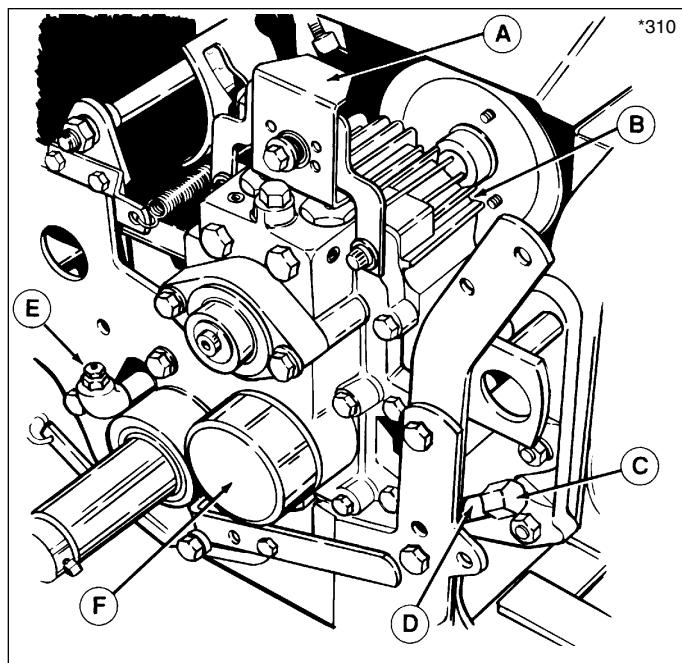
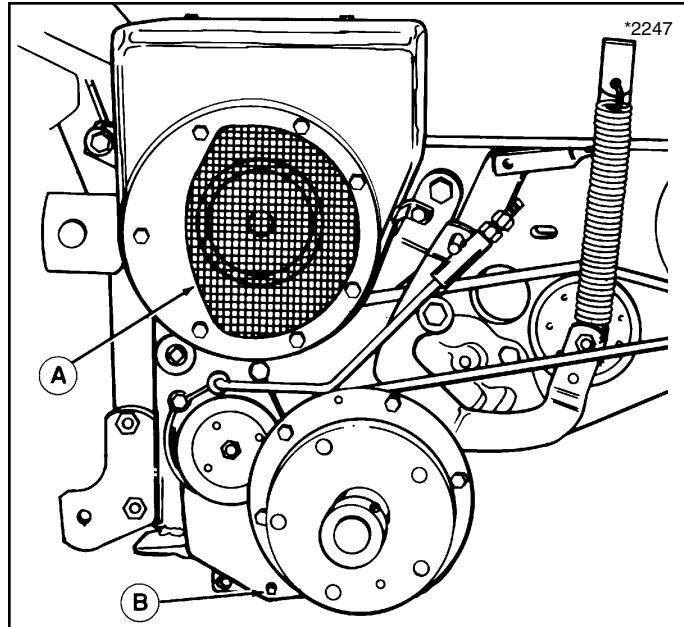

Figure 14. Hydrostatic Transmission
Figure 15. Hydrostatic Transmission
2. Wipe the transmission fill cap (C, figure 14) and fill tube (D) clean, then remove the cap.
3. Lift and hold the relief valve (E) open. Fluid should be at top of filler pipe. If not, add multi-purpose hydraulic transmission fluid oil. Relief valve must be held firmly up when adding oil.
NOTE: The filter is shown in figure 14. Replace the filter every 400 hours of operation or whenever changing transmission fluid. Transmission fluid should be changed only when performing repair work on transmission or hydrostatic unit, or if it becomes discolored from overheating.
2. Press transmission release lever (A, figure 14) down firmly to disengage the hydrostatic pump.
3. Remove hydrostatic transmission drain plug (B, figure 15) from lower right-hand side. Remove dirt from around the fill cap (C, figure 14) and loosen cap to permit air to enter transmission.
7. Remove the fill cap (C, figure 14) and clean dirt away from relief valve (E). Using a clean funnel, add multi-purpose hydraulic transmission fluid into the fill tube while holding the relief valve up, until fill tube is full. Install fill tube and hand tighten.